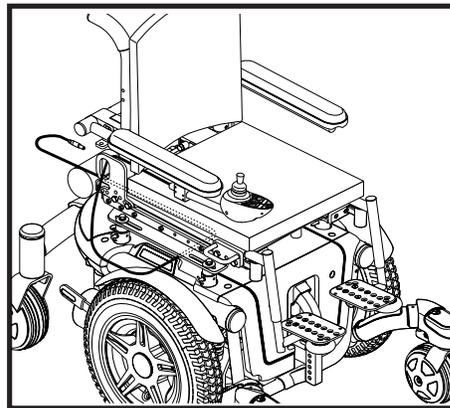

Figure 18. Cable Routing
6. Route the controller cable to the back of the power base and reconnect the controller. See figure 18.